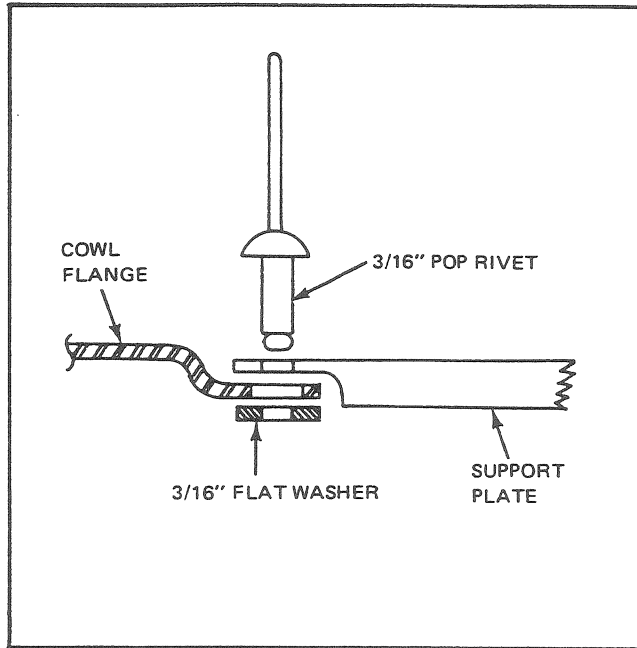

Fig. 8 – Article No. 113
15. Attach pivot shaft support plate to cow' flange using two 3/16" dia. pop rivets with a 3/16" d'. flat washer under cowl flange. (Refer Fig. 8)